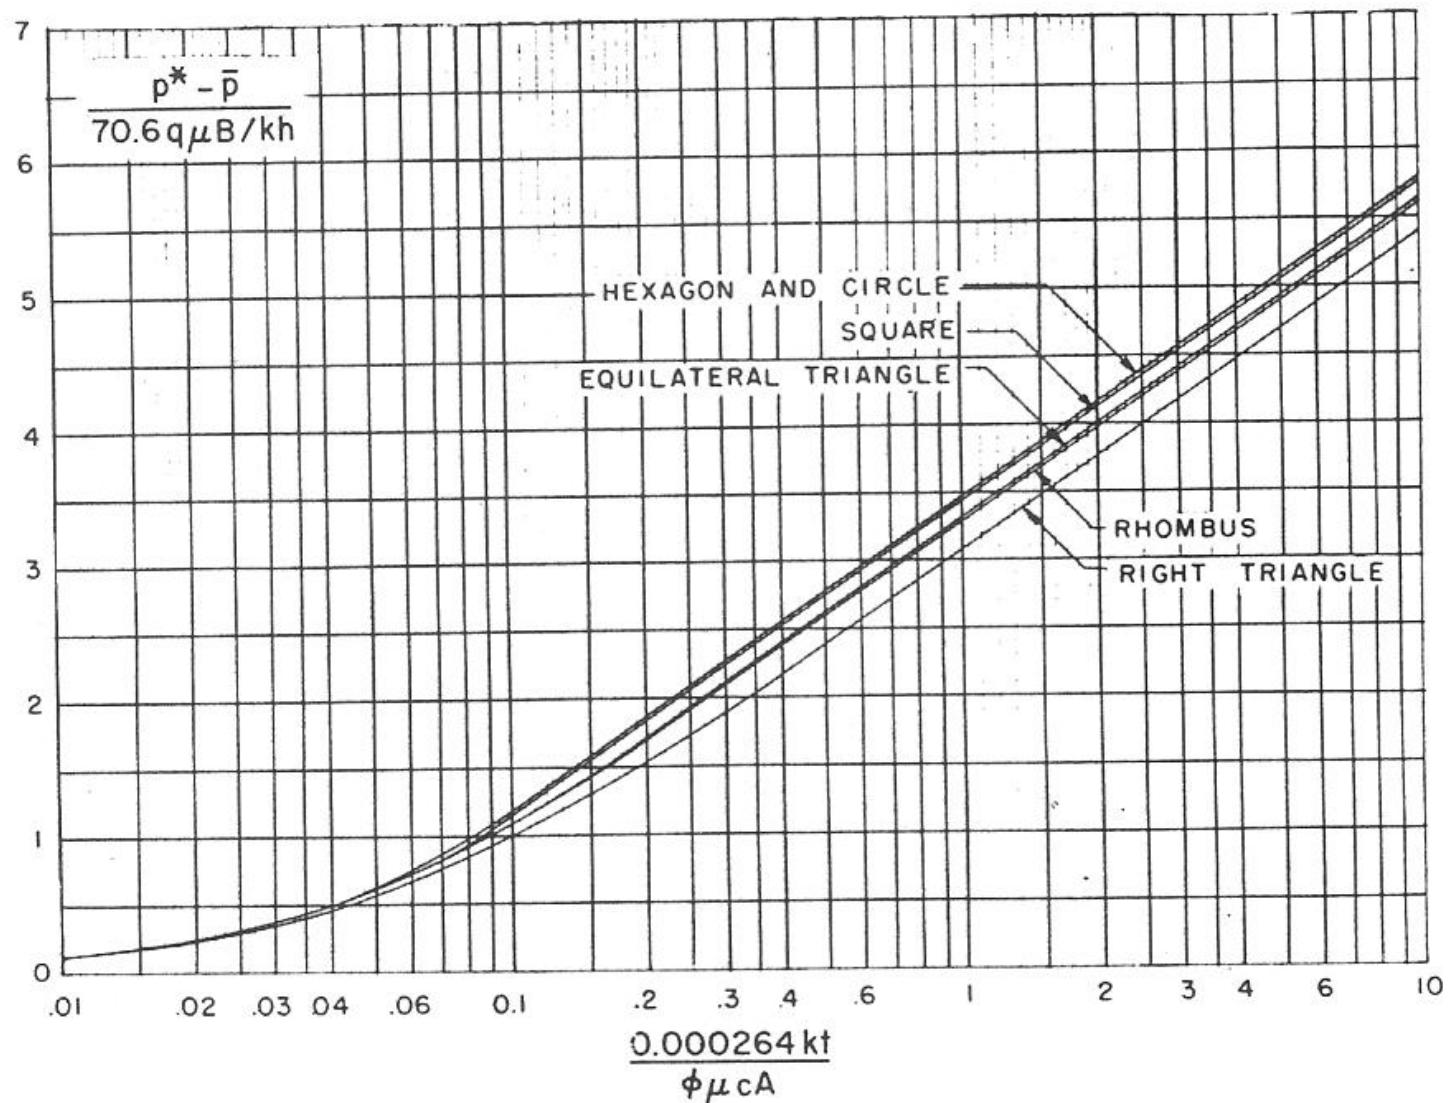

Fig. 2.17A – MBH pressure function for well in center of equilateral figures.
(2) Estimate the drainage area shape:
(3) Choose the proper curve from figs 2.17A through 2.17G
After pseudo-steady state flow has been achieved (figs 2.17A - 2.17G)